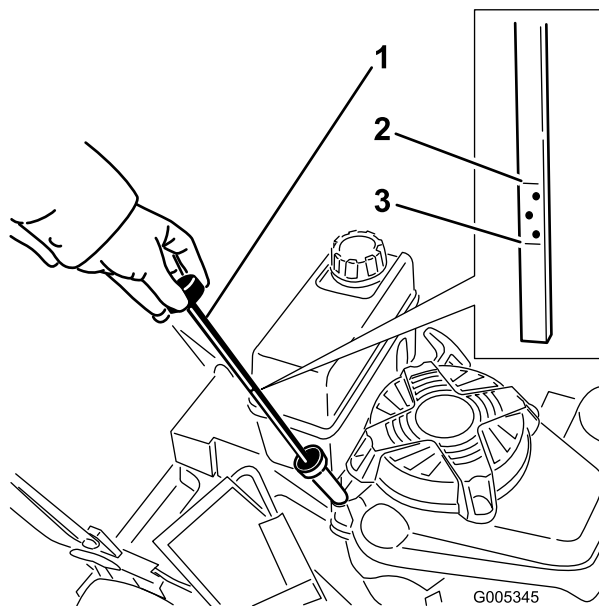

Figure 12
Before each use, ensure that the oil level is between the Add and Full marks on the dipstick (Figure 12).
2. Clean around the dipstick (Figure 12).
6. Read the oil level on the dipstick (Figure 12).